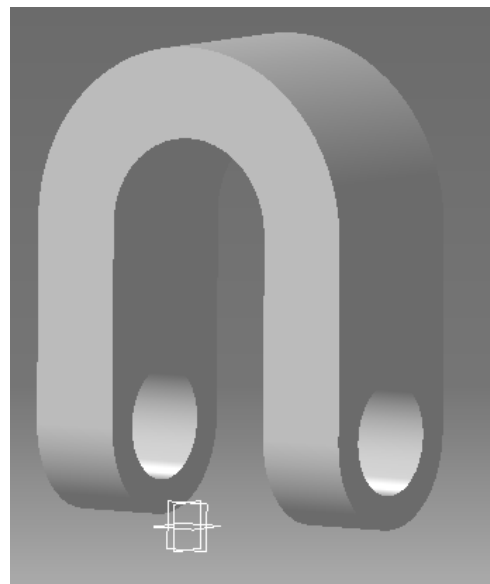

Figure 2.9
2.16 Select the **Hole** tool. When the **Hole Definition** Window appears, enter “18 mm” for the **Diameter** box and select “Up To Last” as the Hole Type. This will create the Hole in both legs at the same time. Select OK to create the hole. Your part should look similar to the one in Figure 2.9.